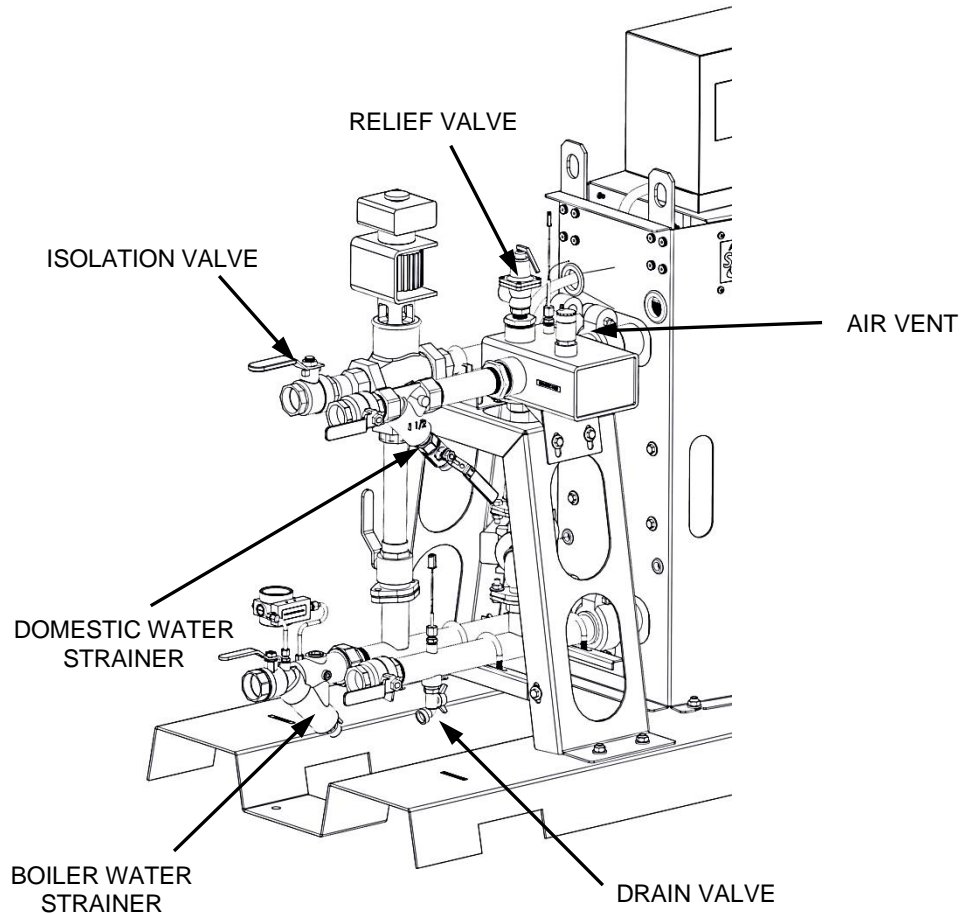

Figure 5-2. Typical SmartPlate Piping
3. Connect a drain hose to the Strainer on the Boiler Water side of the piping assembly (Figure 5-2). Open the valve on the Strainer and drain the boiler water from the unit. It will be necessary to loosen a Victaulic coupling by the heat exchanger to allow air into the pipe during draining.